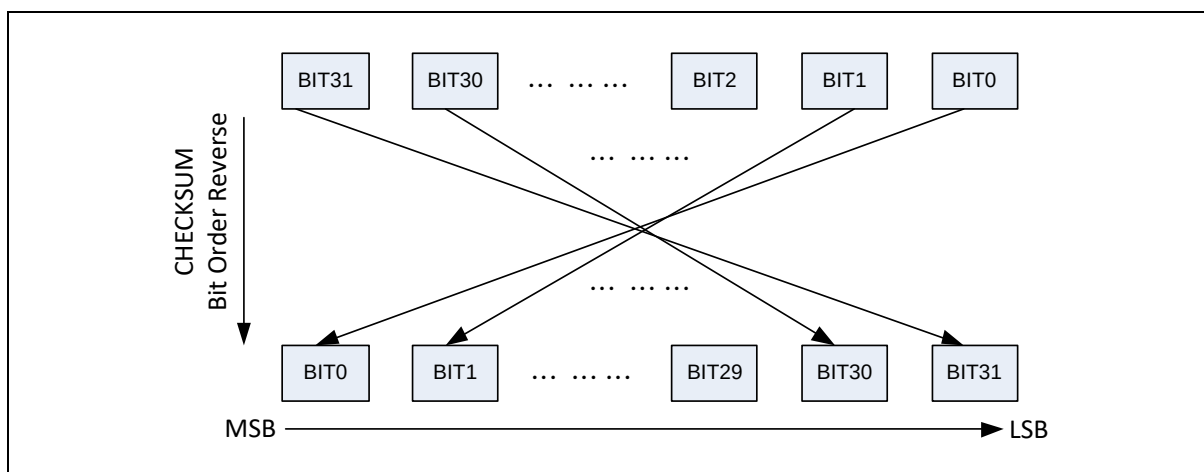

Figure 6.22-2 CHECKSUM Bit Order Reverse Functional Block
- 1) Configure bit order reverse for CRC checksum by setting CHKSREV (CRC_CTL[25] Checksum Bit Order Reverse). The functional block is also shown in Figure 6.22-2 CHECKSUM Bit Order Reverse Functional Block